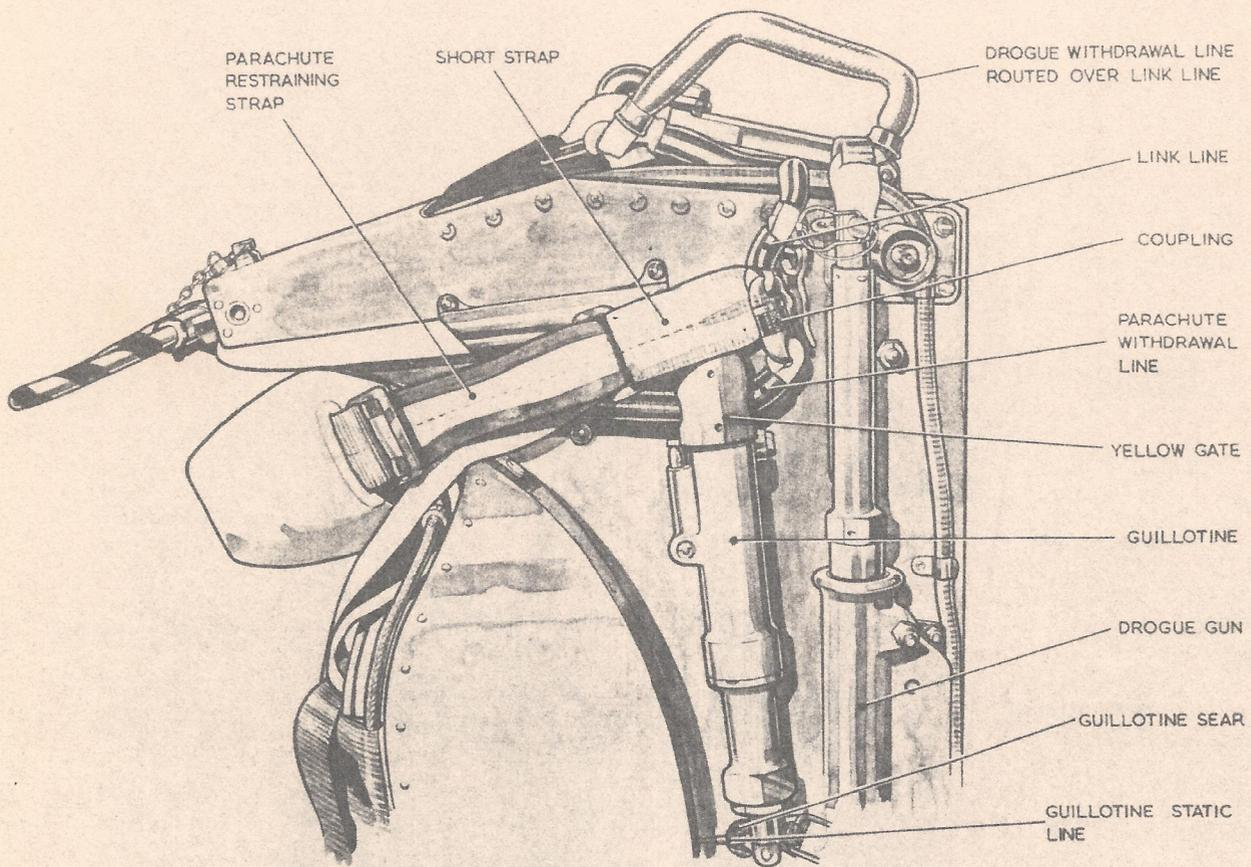

Fig. 4. Arrangement on port side of drogue container
- (5) Push the harness 'go-forward' lever fully forward, release it to its centre position and pull out the webbing strap of the top harness lock. Pass the strap downwards through the yoke on the harness shoulder straps, ensuring that the yoke is in its natural position and that the straps are not twisted.
- (6) Insert the lug on the end of the webbing strap between the extremities of the paddle spreaders and into the attachment point on the back of the seat. Push the lug in until it locks in position.
- (7) Connect the two halves of the parachute withdrawal line/link line coupling. Open the yellow spring loaded hinged guard at the top of the guillotine and route the parachute withdrawal line through the guillotine aperture. Close the guard and ensure that it correctly retains the withdrawal line. Ensure that the drogue withdrawal line passes over the drogue link line (*fig. 4*).
- (8) Position the wedge pad on the parachute pack and ensure that it fits correctly under the drogue container.
- (9) Pass the port side parachute pack restraining strap over the top of the pack, over the parachute withdrawal line, through the buckle on the short strap at the port side of the drogue container and then forward through the buckle on the port side of the wedge pad. It is important that the parachute withdrawal line/link line coupling is routed OUTSIDE the short strap (*fig. 4*).
*When passing the strap through the buckle on the short strap at the side of the drogue container, ensure that it passes through the buckle from the outside inwards (*fig. 4*).*
- (10) Pass the starboard side parachute pack restraining strap over the top of the parachute pack, through the buckle on the short strap at the starboard side of the drogue container and then forward through the buckle at the starboard side of the wedge pad. Refer to the note following subpara. (9).
- (11) Fully tighten the port pack restraining strap and then the starboard strap, so that the pack and wedge pad are held firmly in the seat.
- (12) Attach the guillotine static line to the sear of the guillotine.
- (13) Thread the white 'Y' piece of the negative-G strap through the bracket at the front of the seat pan and through the brackets at the rear, then position each loop over its corresponding harness attachment lug on the back of the combined harness. Insert each harness attachment lug into its seat pan lock, so that it locks into position.